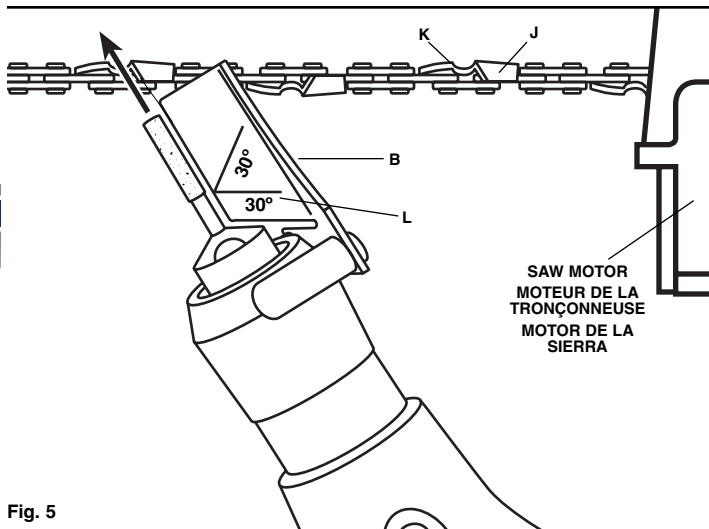

Fig. 5
2. The saw should first be positioned so that you are looking at the side of the chain bar with the motor to your right. Cutter teeth on the far side of the chain are sharpened, from inside to outside, or away from you, as shown in Figure 5. The guide (B) should be laid flat on the tooth with the 30° index line (L) parallel with the chain. This index line should be aligned by eye with the chain.